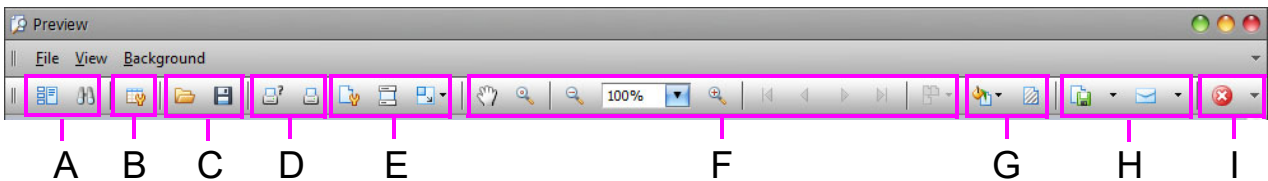

Figure 4-44: Print Preview icon locations
2. Refer to Figure 4-44 for the locations of the following icons: